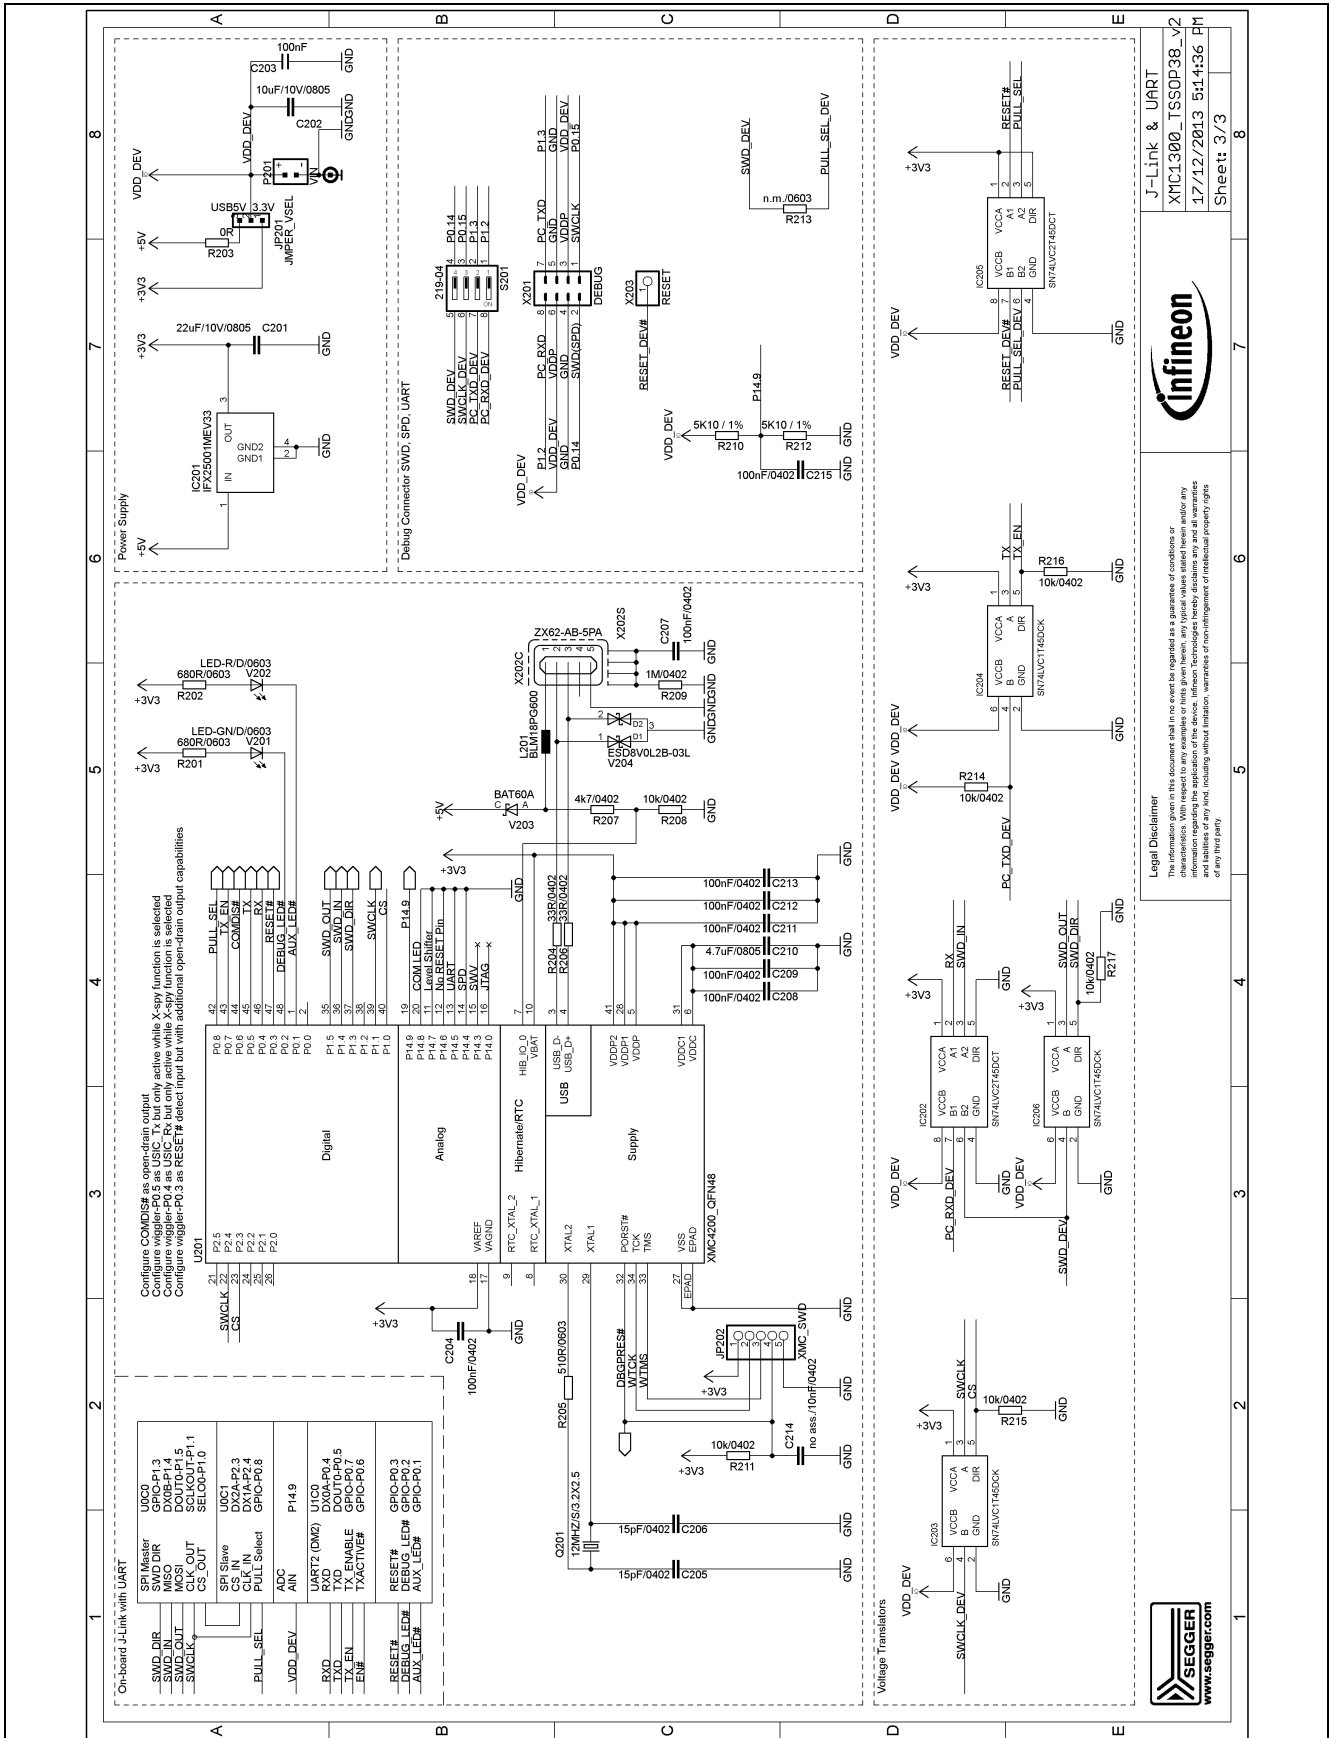

Figure 8 Schematic 2 of 2 XMC1300 CPU Card
- Figure 8: On-board Debugger, Power Supply